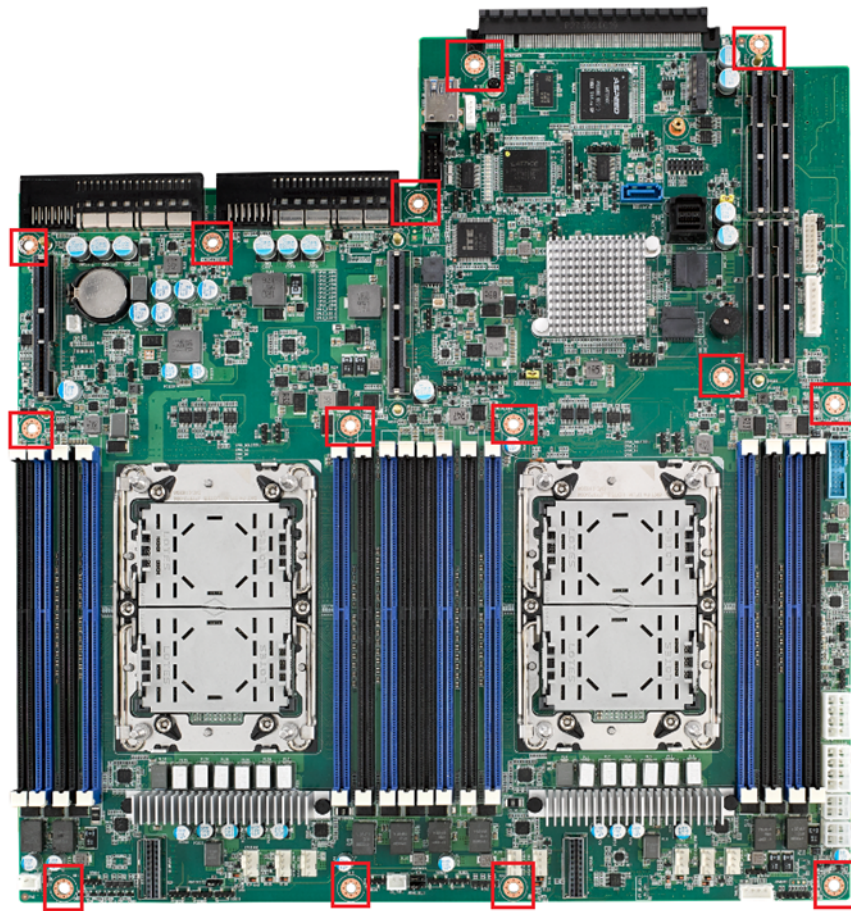
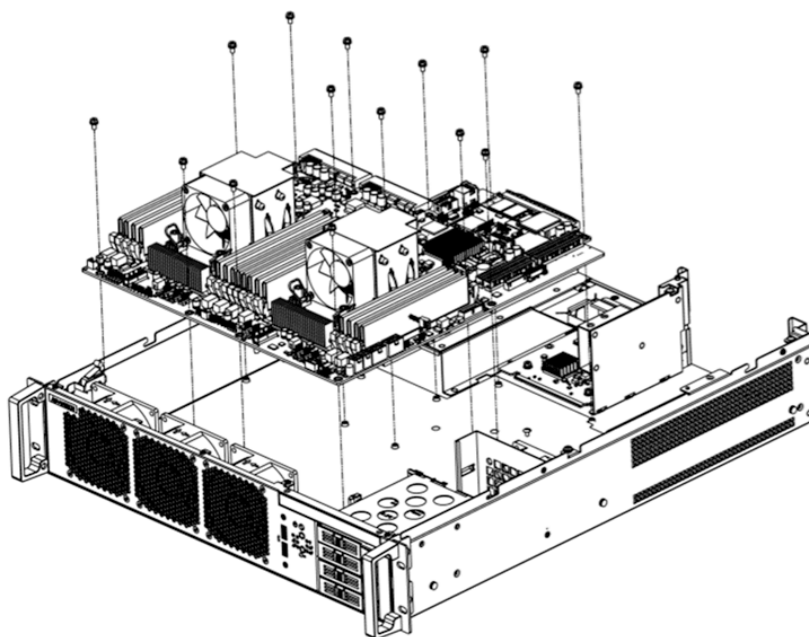

Figure 2.4 Stub Copper Locations Indication/ 母板安装铜柱标示 / 主機板安裝銅柱標示
Figure 2.5 Fasten the Stub Copper and Screws/ 固定铜柱与螺丝 / 固定銅柱與螺絲
1. Figure 2.4 shows the stub copper location for attaching the specific ASMB-62 series motherboard. Users can find the motherboard screws in the accessory box. Lock the motherboard screws into the correct location and then rotate them counter clockwise to fasten it onto the chassis (See Figure 2.5).
1. 图 2.4 标示了用于安装特定 ASMB-62 系列主板的铜柱位置，用户可以于配件盒中找到母板螺丝。将母板螺丝锁入相应的位置，然后沿逆时针方向旋转将其固定在机箱上(如图 2.5 所示)。